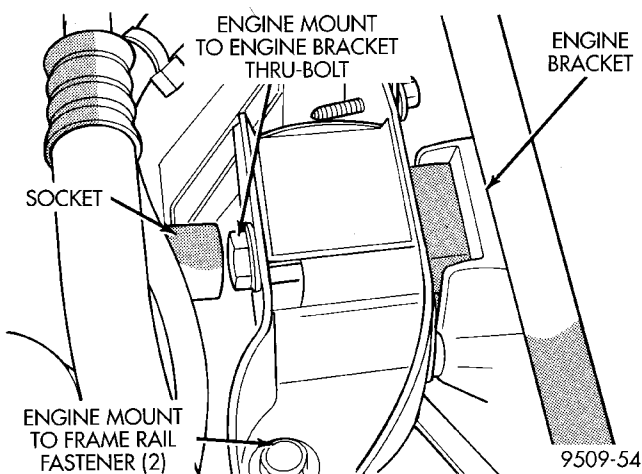

Fig. 15 Engine Mounting—Right
- (1) Remove the purge duty solenoid from engine mount bracket.
- (2) Remove the right engine mount insulator vertical fasteners from frame rail (Fig. 15).
- (3) Remove the load on the engine mounts by carefully supporting the engine and transmission assembly with a floor jack.
- (4) Remove the thru-bolt access hole cover. Remove the thru-bolt from the insulator assembly (Fig. 15). Remove insulator.
- (5) Reverse removal procedure for installation. Tighten engine mount to rail fasteners to 54 N·m (40 ft. lbs.), then tighten engine mount to engine bracket thru-bolt to 108 N·m (80 ft. lbs.).